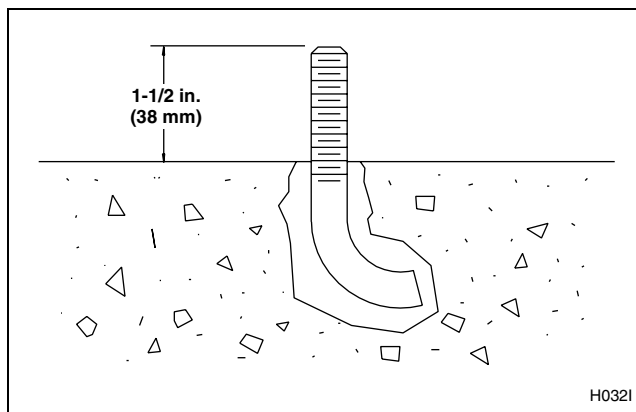

Figure 24
5. Use compressed air or a squeeze bulb to remove debris from each hole. Anchor J-bolt in place, using an industry-accepted anchoring compound. Verify that the J-bolts are in the correct locations and that 1-1/2 inches (38 mm) of each J-bolt protrude from the floor. Refer to *Figure 24*.